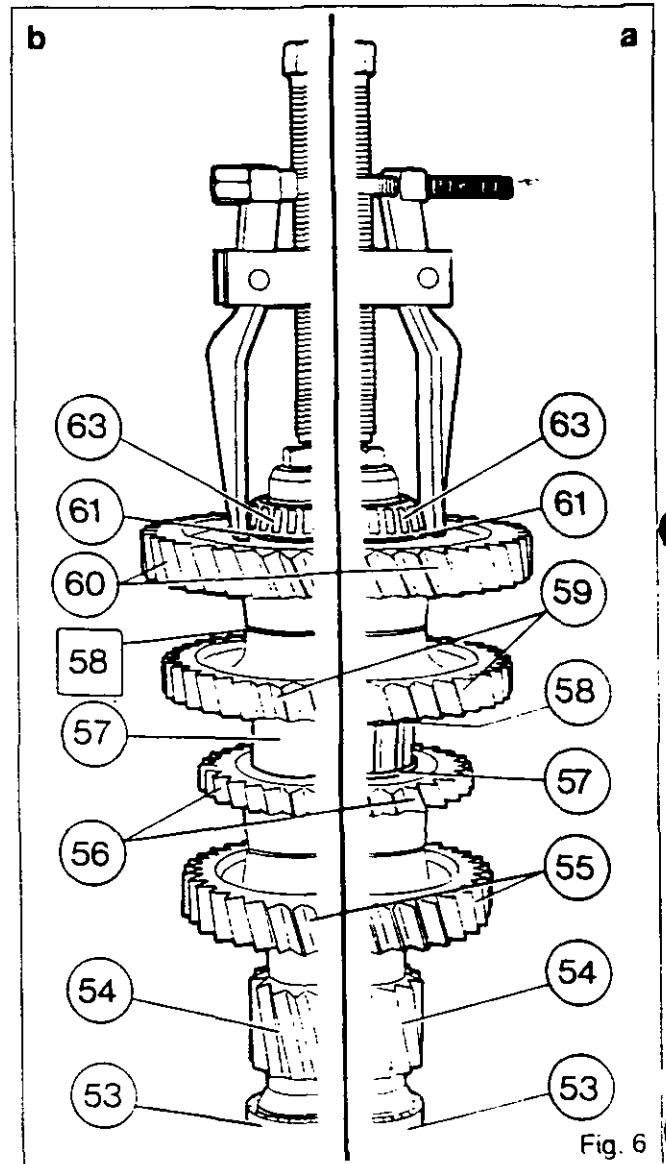
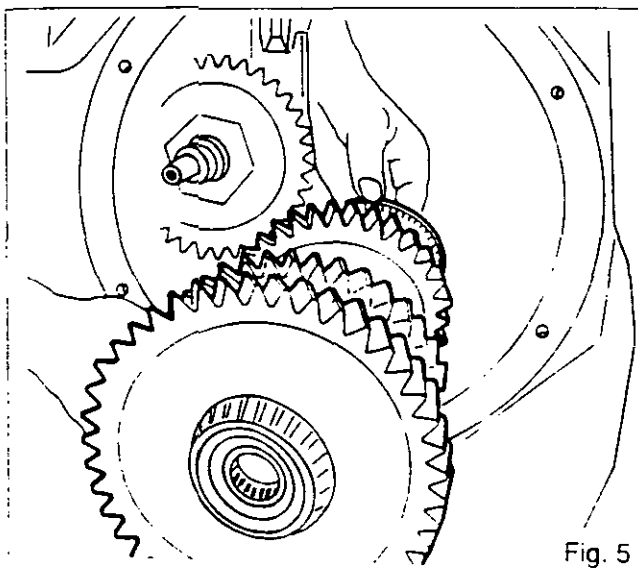

Fig. 6
Fig. 5
9. Withdraw the assembled shaft (Fig.5).
10. Remove washer (50).
12. Remove cup (52).
#### Disassembling shaft (54) (Fig.6)